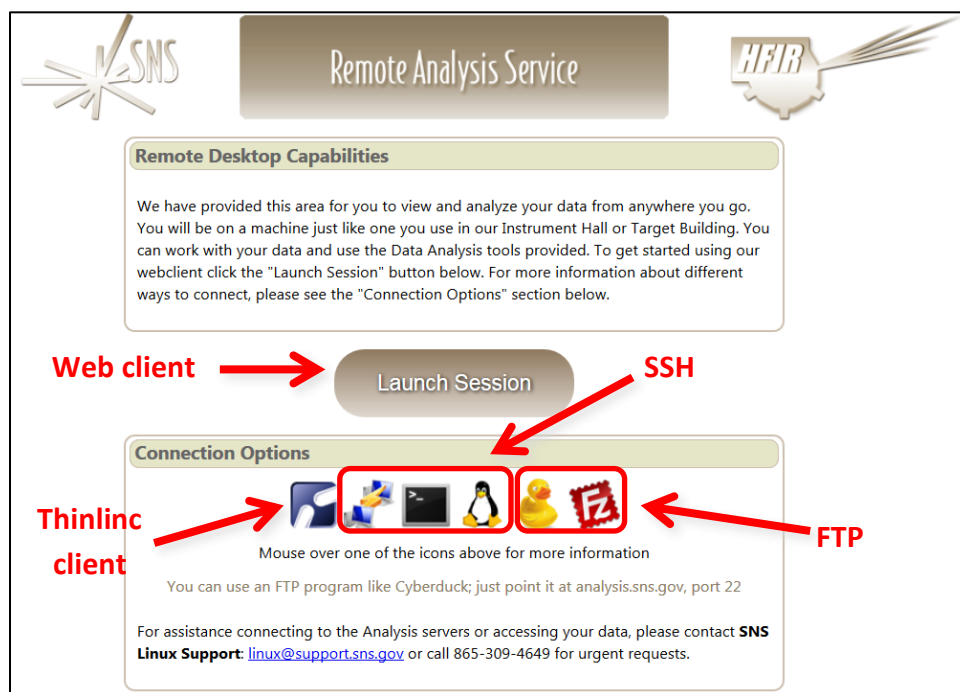

Figure 5. Access the analysis cluster by going to <http://analysis.sns.gov> and either clicking "Launch Session" or installing the Thinlinc client.
- 2) To connect to the analysis cluster, go to <http://analysis.sns.gov/> (Figure 5).